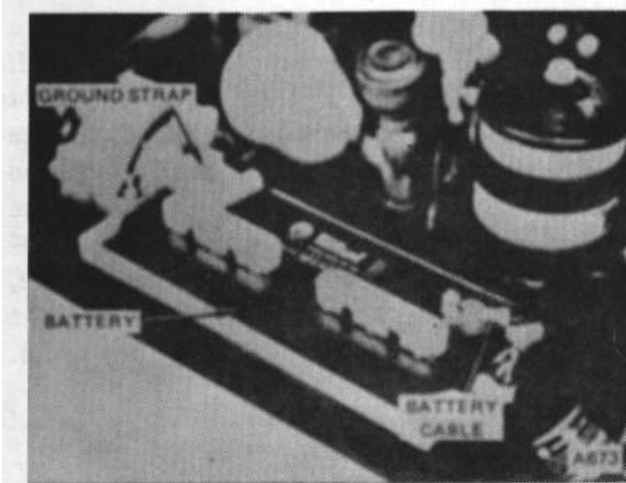

Figure 2.
2. Loosen the two mounting nuts, one on each side, in the engine compartment, (Fig. 2)
4. Disconnect the ground strap and cable from the battery. Unscrew the battery holddown wing nuts. Remove the battery holddown and lift the battery out, Disconnect the wires from alternator. (Fig. 2)